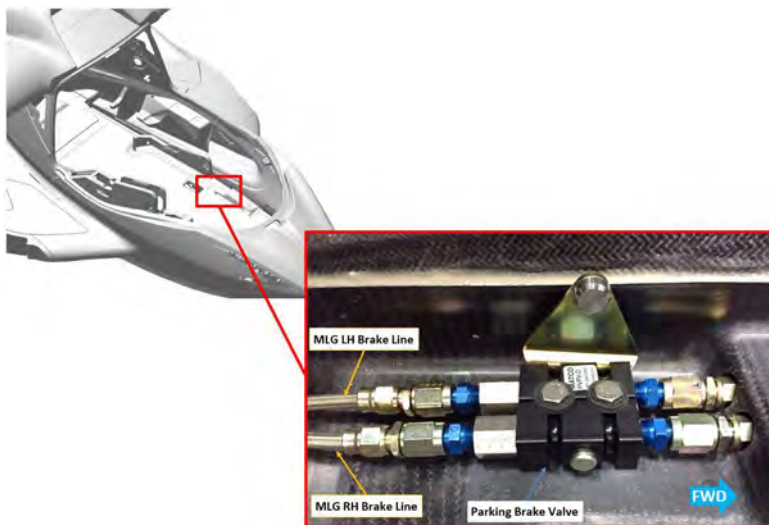

FIGURE 15-14
16. Connect the brake line B-nut to the parking brake valve, then use a 7/16 wrench to hold the AN816-3D fitting on the forward port of the parking brake valve, and a 1/2 wrench to torque the B-nut to 120-132 in-lbs (see Figure 15-14).